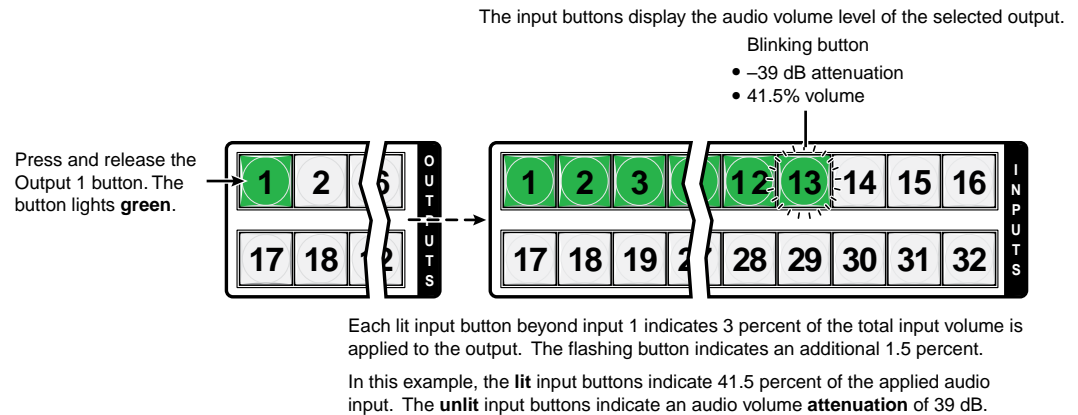
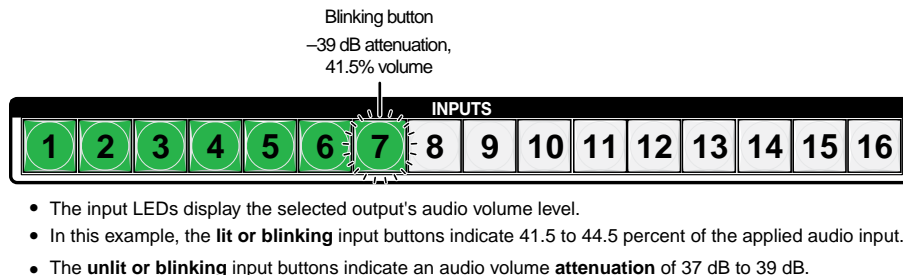
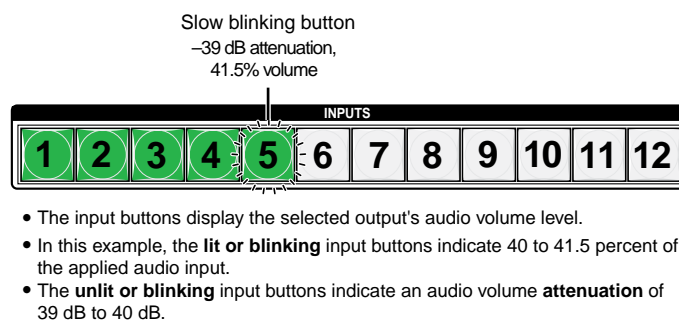

Figure 45. Select Output 1
Figure 46. Volume Display on a 12-input-button Switcher
Figure 47. Volume Display on a 12-input-button Switcher
3. **Select an output:** Press and release the output 1 button (see figure 45).
In figure 45, figure 46, and figure 47, the lit or blinking input buttons indicate 41.5 percent of the applied audio input. The unlit input buttons indicate an audio volume attenuation of 39 dB.
Figure 46 shows the same volume (41.5%) as figure 45, but displayed on a 16-input-button switcher, such as a MAV Plus 1616 HDA.
Figure 47 shows the same volume (41.5%) as in figure 45, but displayed on a 12-input-button switcher, such as a CrossPoint Ultra 128 HVA.